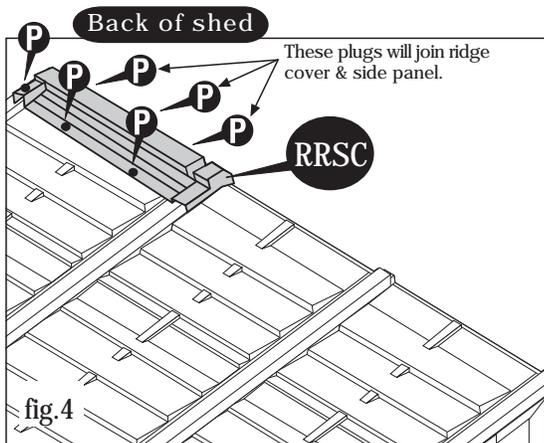
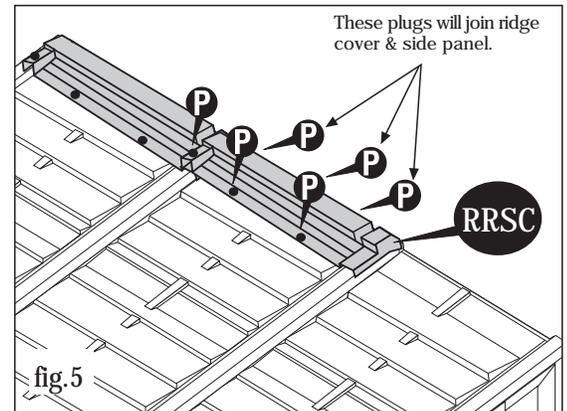

fig.4
fig.5
5. Attaching the ridge cover (RRSC) on top of the roof panels (RP↑) start from the back side of the shed. See Fig.4 Fig.5 Fig.6
4. Attach the ventilation cover (VC) with the ventilation cover pin (VCP) as in fig.4.